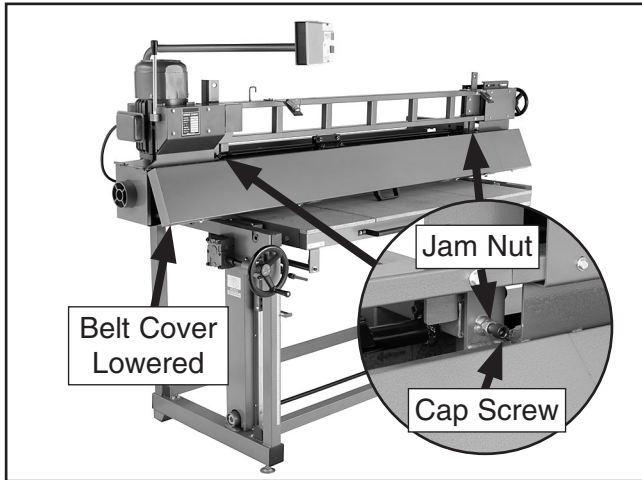

Figure 60. Jam nut and cap screw.
- Lower the belt cover, as shown in **Figure 60**, to gain access to the 90° stop screws. Loosen the jam nut several turns so that the cap screw can turn freely.